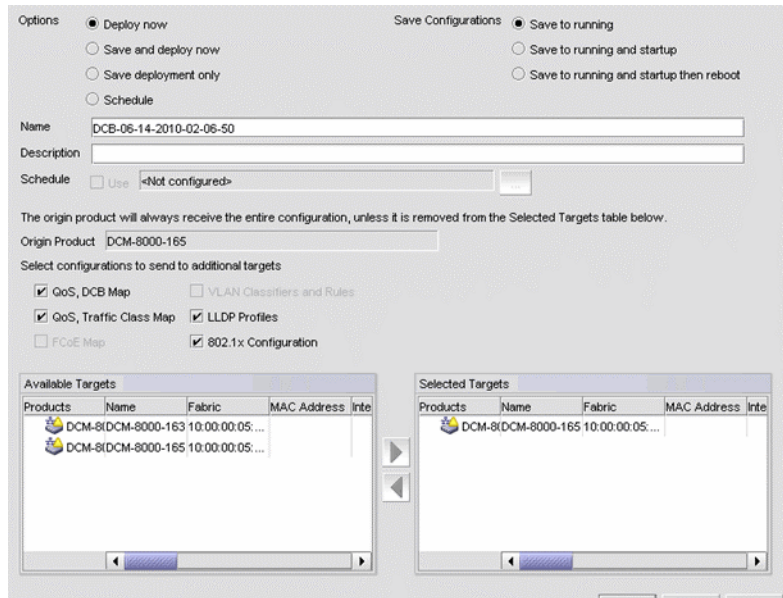
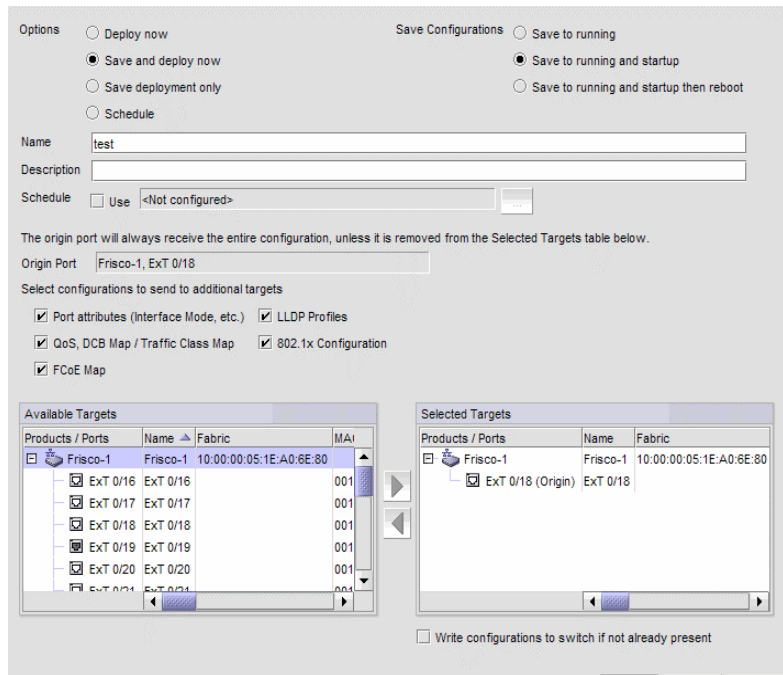
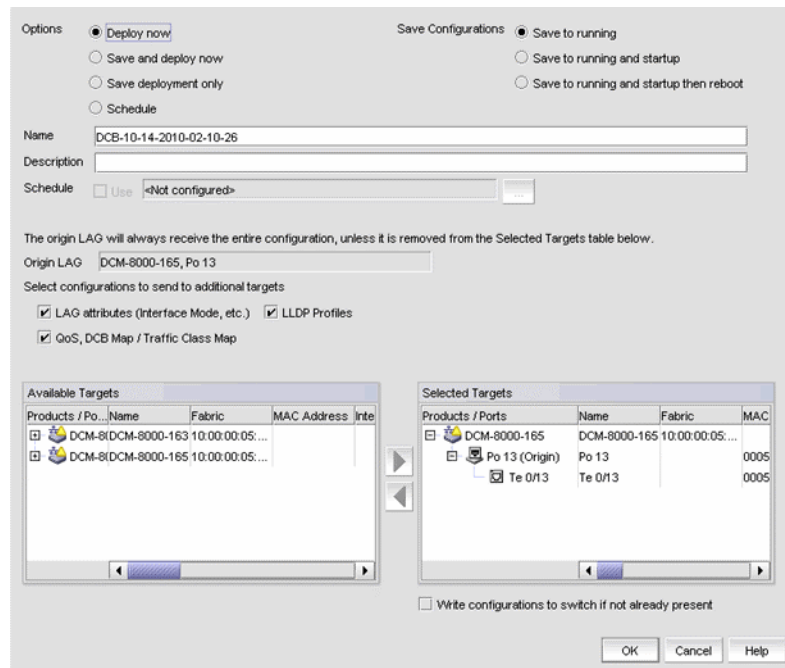

FIGURE 173 Deploy to Products dialog box
FIGURE 174 Deploy to Ports dialog box
FIGURE 175 Deploy to LAGs dialog box
3. Configure the switch, port, or LAG. When you have finished the configuration, click **OK** to launch the appropriate dialog box. Refer to Figure 173, Figure 174, and Figure 175.